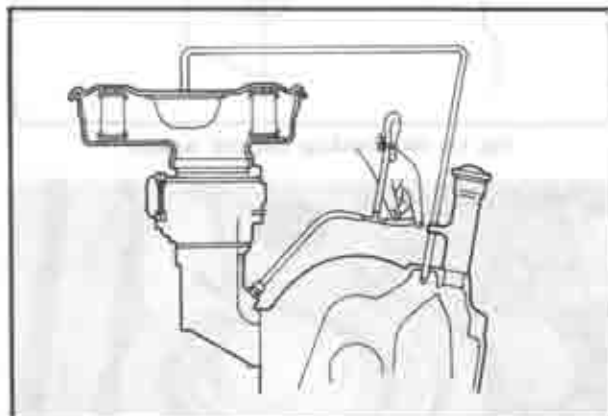

Fig. 1A-32 Checking ventilation valve
3. Hold a finger over the end of the ventilation hose and pinch off the evaporative line hose as shown in Fig. 1A-32. The engine should roughen and engine speed should drop.